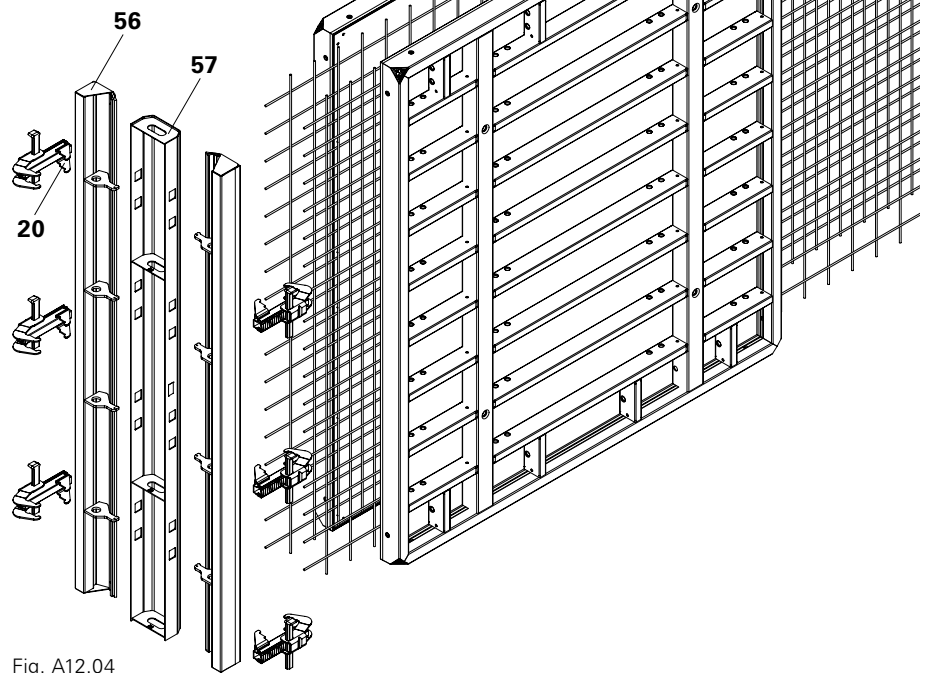

Fig. A12.04
2. Attach Stopend Panel TRIO AT (56) to the primary formwork using the Alignment Coupler BFD (20).
4. Position the Stopend Panel TRIO MT (57).
- (Fig. A12.04)